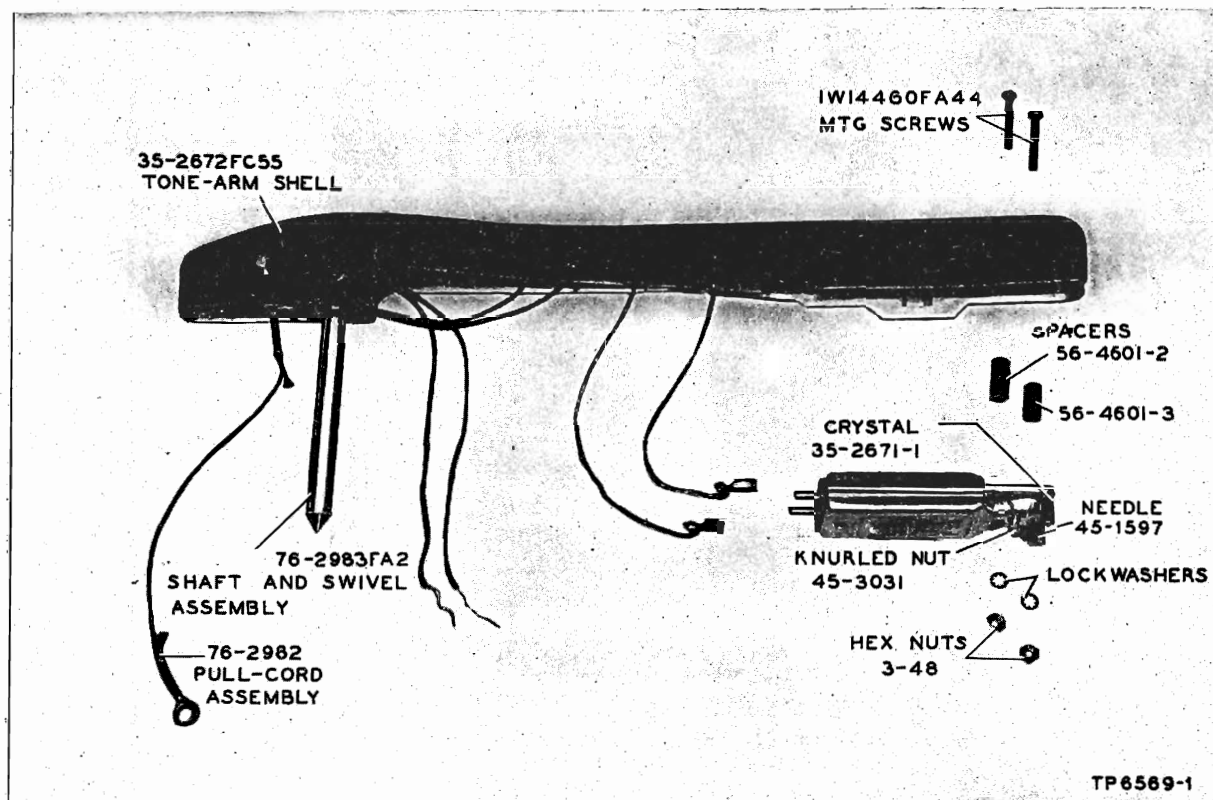

Figure 22. Record-Changer Tone-Arm Assembly, Part No. 35-2663-2
- Drop cartridge below tone arm sufficiently to allow removal of the two clips from cartridge, as shown in figure 22. If pickup leads are shielded, unsolder shield.
- Loosen clamp screw which holds trip arm to tone-arm shaft, Part No. 76-2983FA2 (figure 12). Lift out tone arm and shaft. The tone-arm assembly is shown in figure 22.